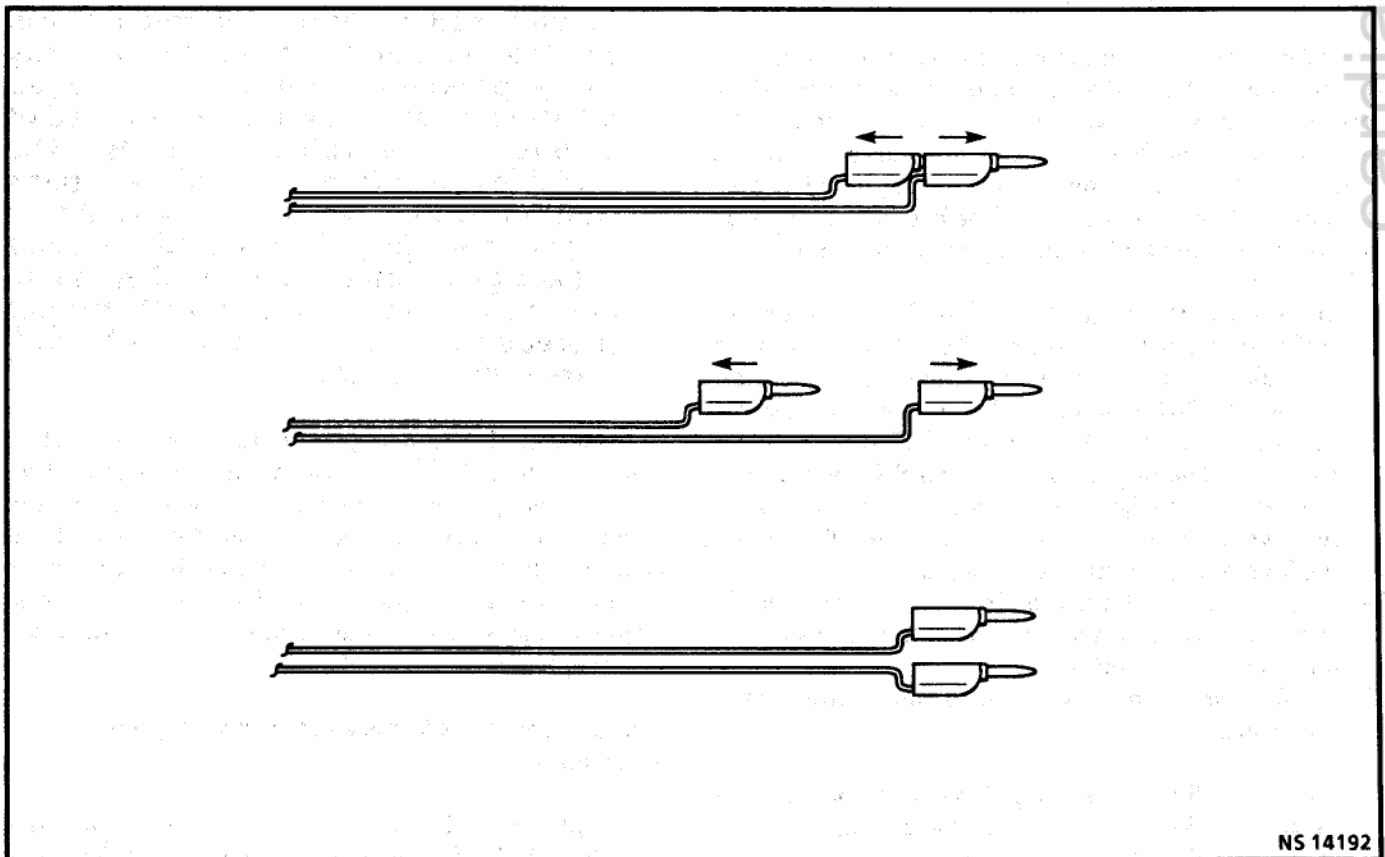

Figure 21 - Separating the Two Shorted Banana Plugs
17. Separate the two banana plugs on the SIR deployment harness (Figure 21).